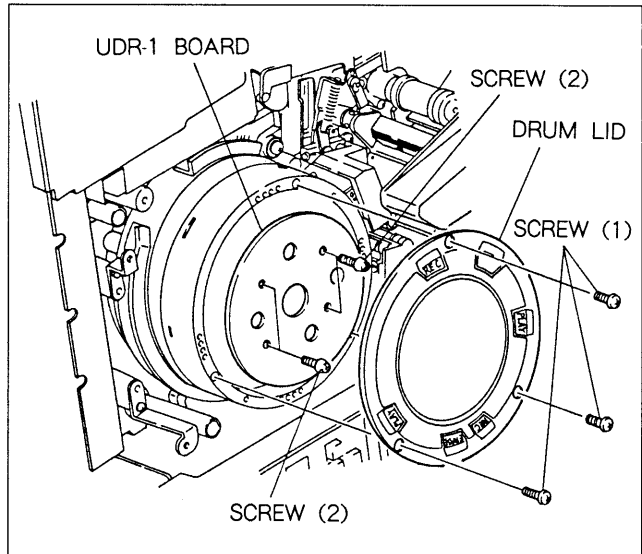

Fig. 9-11-1. Video REC Head Playback Tool Installation (1)
- (1) Remove the three B2.6×6 screws (1) then remove the drum lid as shown in Fig. 9-11-1.
- (2) Remove the four B2.6×6 screws (2) then remove the UDR-1 board as shown in Fig. 9-11-1.